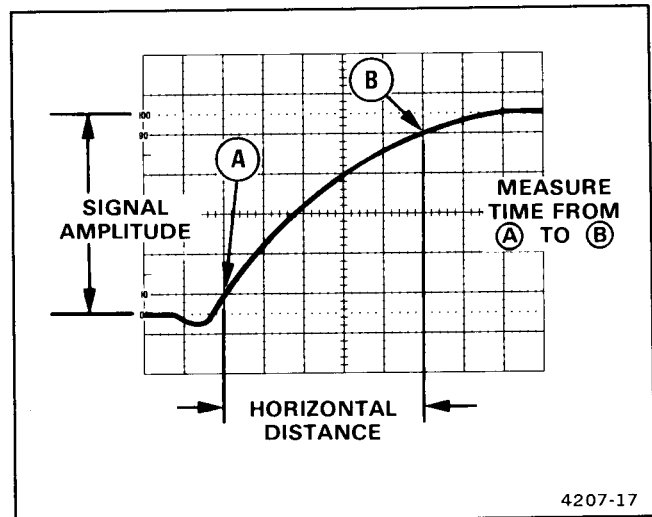

Figure 4-7. Rise time.
Rise-time measurements use the same methods as time duration, except that the measurements are made between the 10% and 90% points on the leading edge of the waveform (see Figure 4-7). Fall time is measured between the 90% and 10% points on the trailing edge of the waveform.
4. Adjust vertical positioning so that the zero reference of the waveform touches the 0% graticule line and the top of the waveform touches the 100% graticule line (see Figure 4-7).
6. Horizontally position the display so the 10% point on the waveform intersects the second vertical graticule line (see Figure 4-7, Point A).
**EXAMPLE:** The horizontal distance between the 10% and 90% points is 5 divisions (see Figure 4-7), and the A SEC/DIV switch is set to  $1 \mu\text{s}$ . The X10 magnifier knob is pushed in (1X magnification).